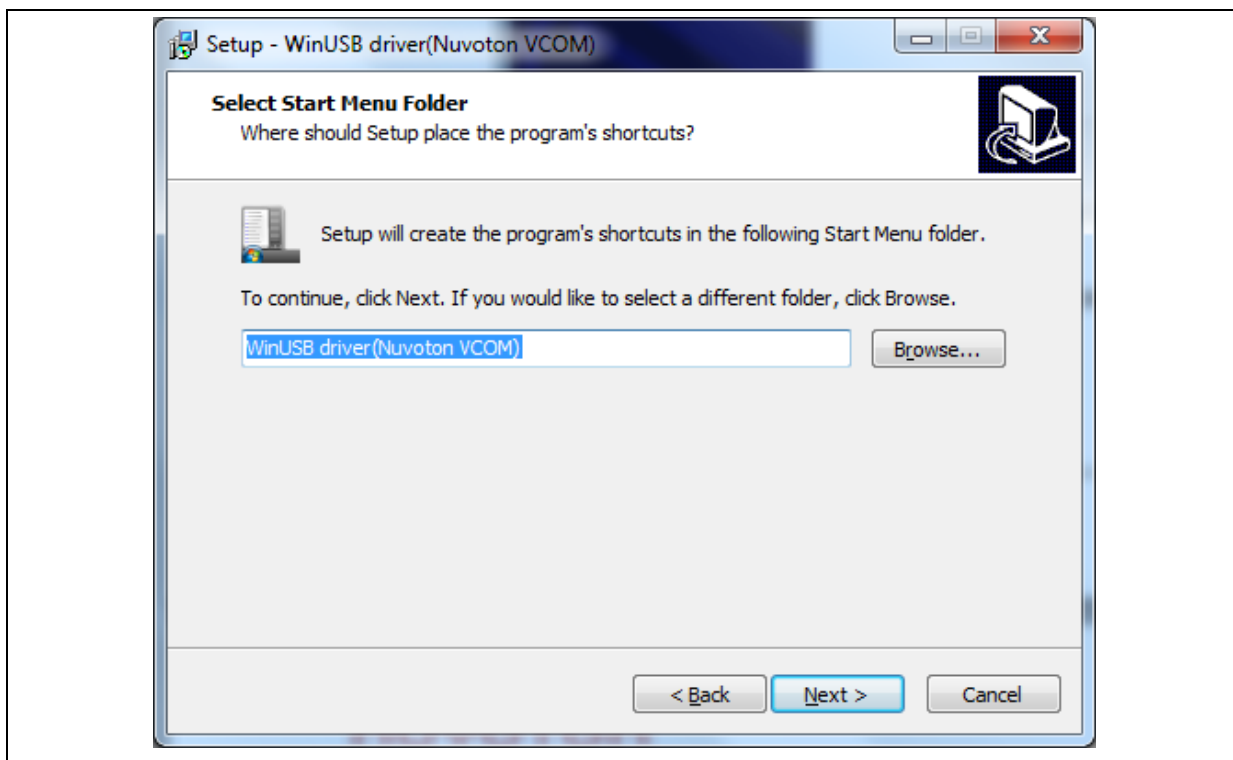

Figure 2-4 WinUSB4NuVCOM Driver Setup (4)
Step 4: Press “Next” (Figure 2-4).